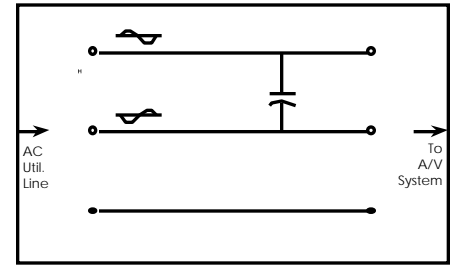

Figure 1A: A series type filter.
sometimes resistors (R) and transformers (T). Figure 1a shows an example of how differential-mode noise is typically handled by filtering on the power line. Since the phases are opposite, when they are combined, the noise cancels out. A simple and almost universal method is to place a small value capacitor ($.01\text{--}.05\mu\text{fd}$) across the lines to effect this cancellation of unwanted frequencies (noise). As frequencies get higher, the capacitor begins to look like a good conductor, and the two out-of-phase noise signals will cancel each other out.